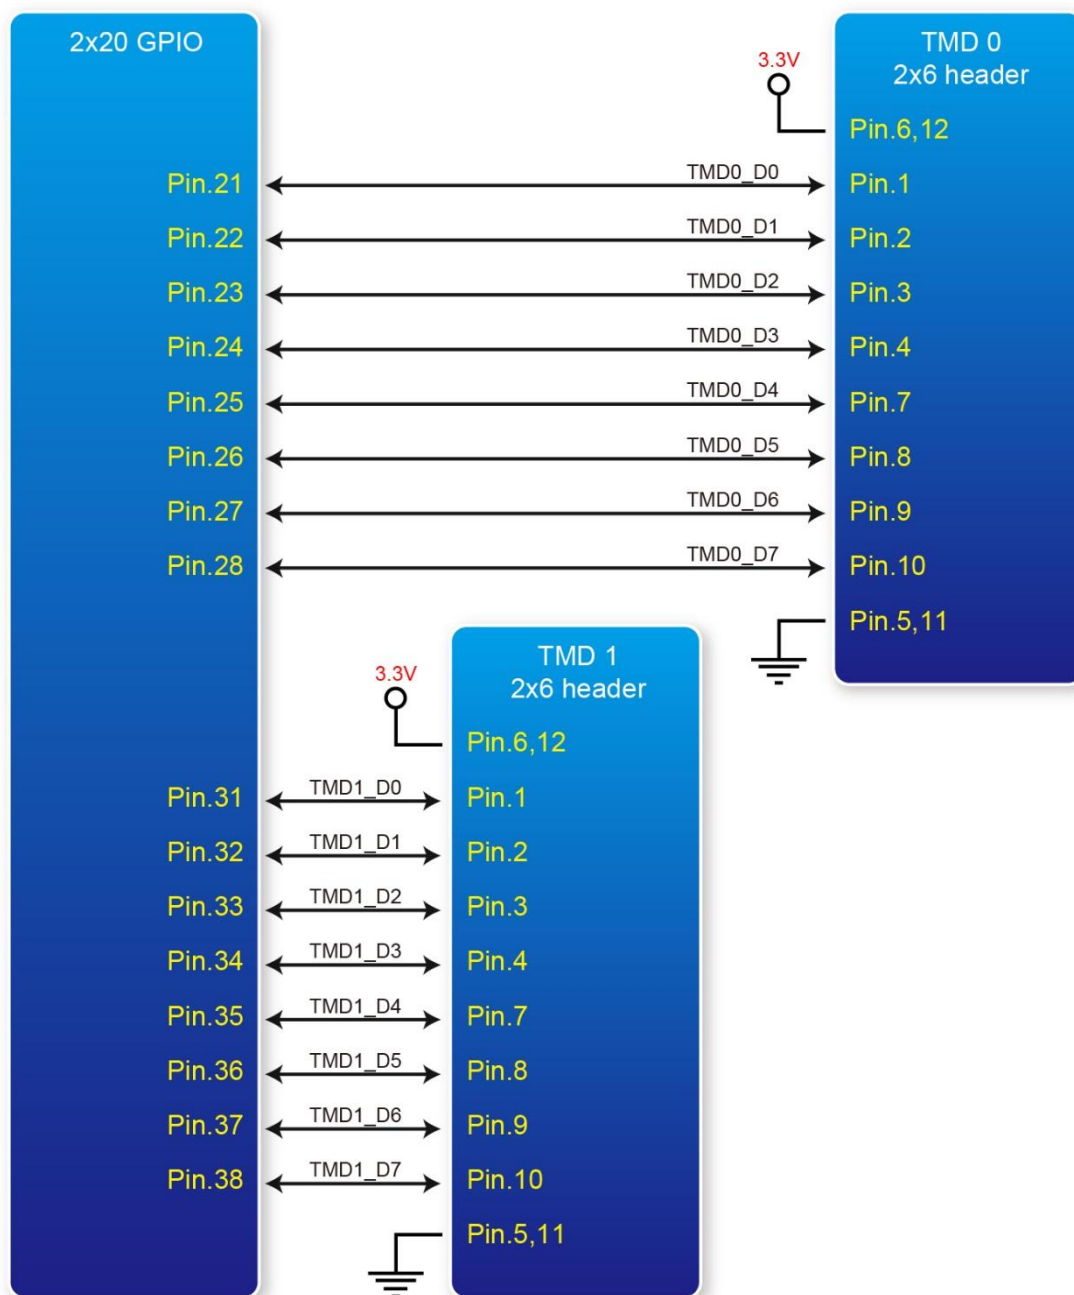

Figure 3-9 Connections between the 2x6 TMD header and 2x20 GPIO header
**Figure 3-9** shows the connection between the TMD header and the 2x20 GPIO header.